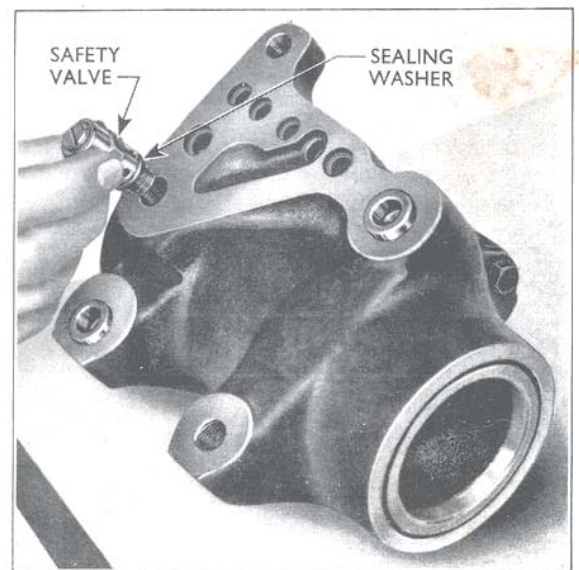

Fig. 28
11. Replace the cylinder safety valve assembly, using a new gasket between the valve and the cylinder. (See Fig. 28.)